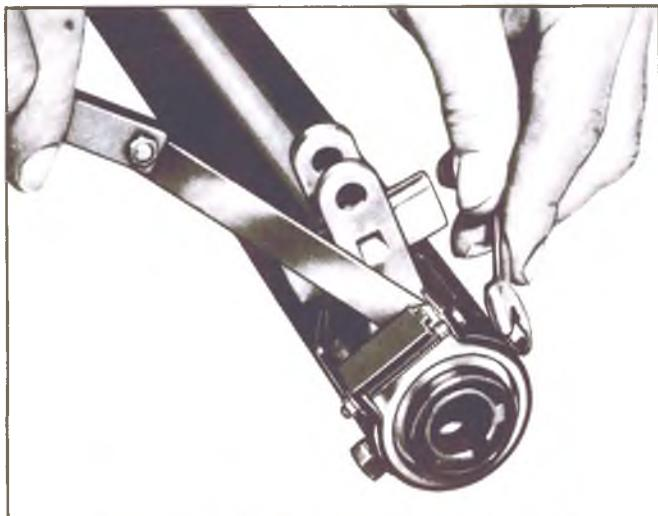

Fig. 37—Shift Tube Adjustment - 3 Speed Man. Transmission
2. Rotate adjusting ring to give $.005''$ end play between adjusting ring and first and reverse shifter lever (fig. 37).